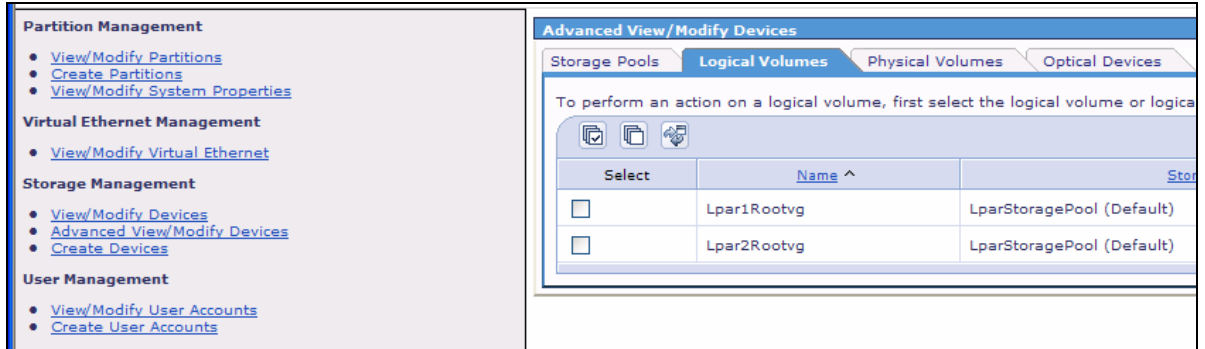

Figure 47. Verifying the creation of two logical volumes
3. Verify the creation of two logical volumes (see Figure 47).